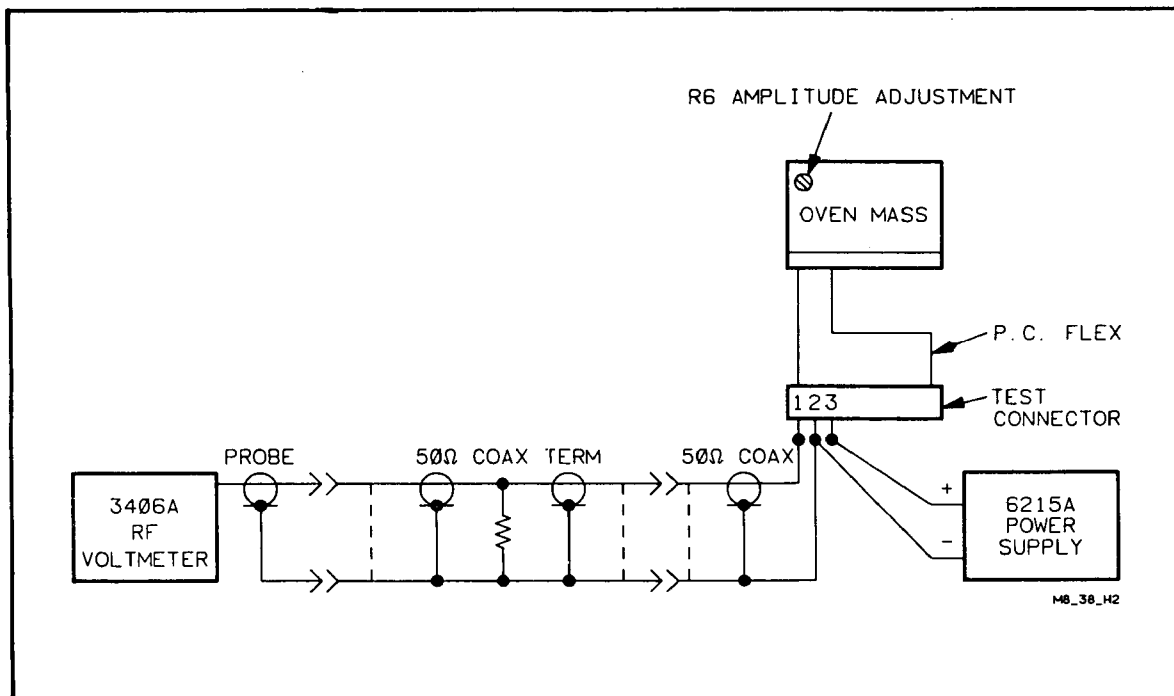

Figure 8-38. Oven Oscillator Output Amplitude Adjustment Setup
5. Set up the equipment shown in *Figure 8-38*.